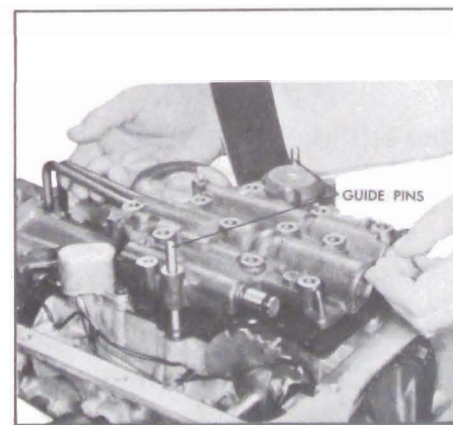

Figure 5-744
3. Install two guide pins (control valve assembly attaching screws with heads removed). See Figure 5-744.